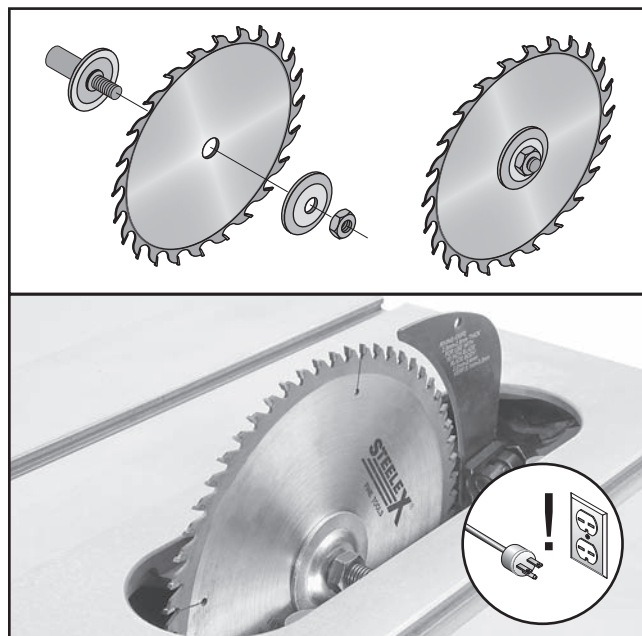

Figure 40. Blade order of installation and teeth facing the correct direction.
4. Install the new blade and flange on the arbor, as shown in **Figure 40**, with teeth facing the front of the saw. Securely tighten the arbor nut.